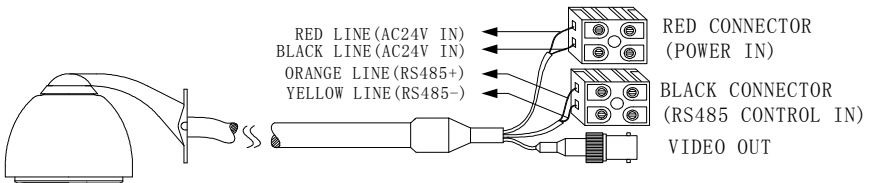

Figure 27
- 11) System pilot wire after (Figure 27) marking meets, after the electricity then controlled the ball machine for the system on.